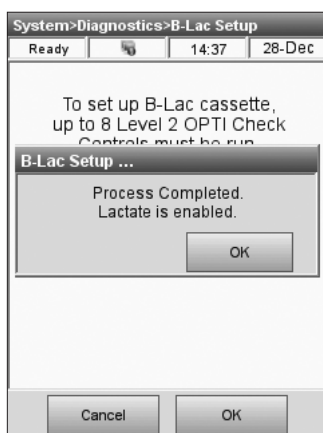

Fig. 8-40 B-Lac enabled
- After running the required number of samples, the lactate parameter is enabled (Fig. 8-40).